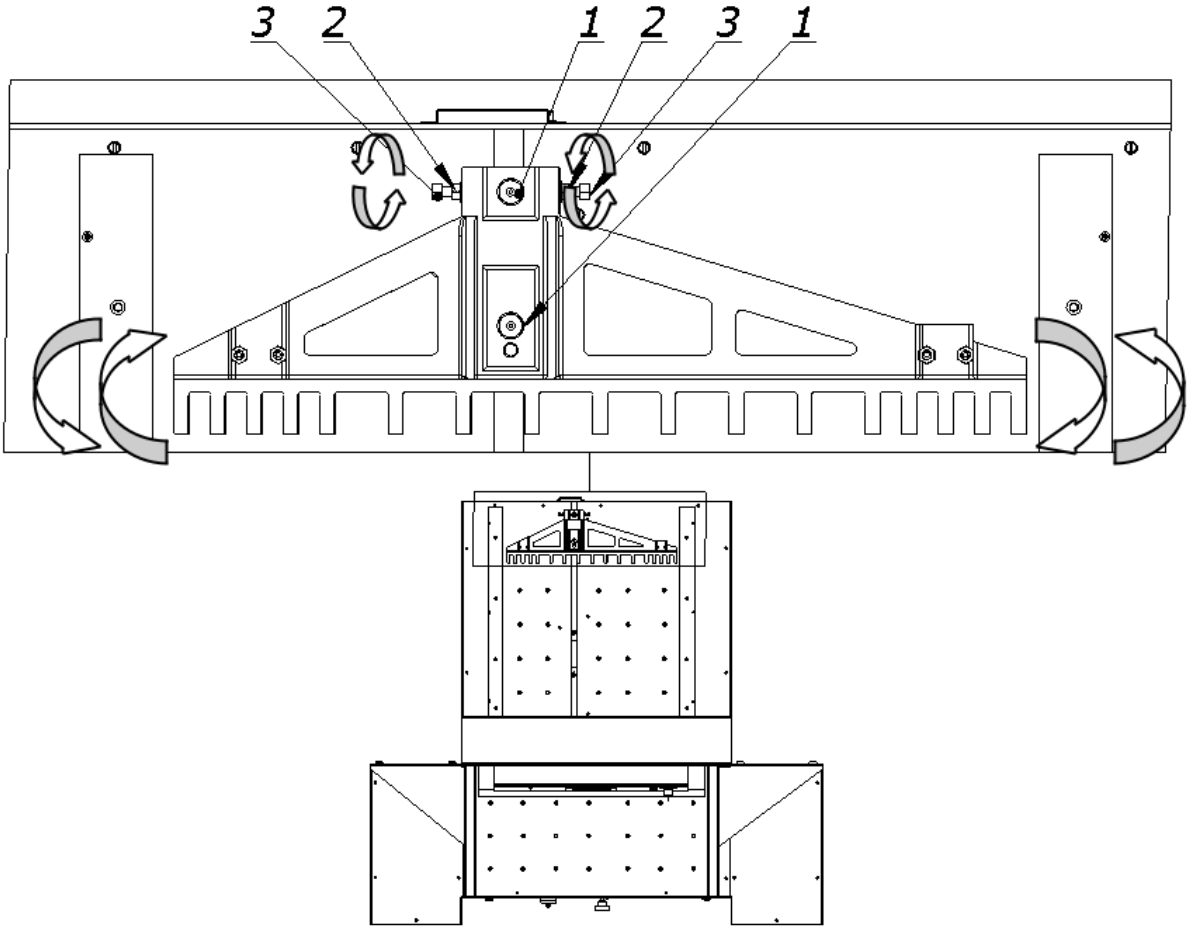

Figure 43 Adjusting elements of backgauge
8.4.3 loosen the screws 1 (fig.43)
8.4.4 loosen the nuts 2 (fig.43)
8.4.5 by turning the screws 3, place the backguage 4 (Fig. 43) at the right angle
8.4.6 lock the adjustment screws with 3 nuts 2 (fig.43)
8.4.7 firmly tighten the screws 1 (fig.43)